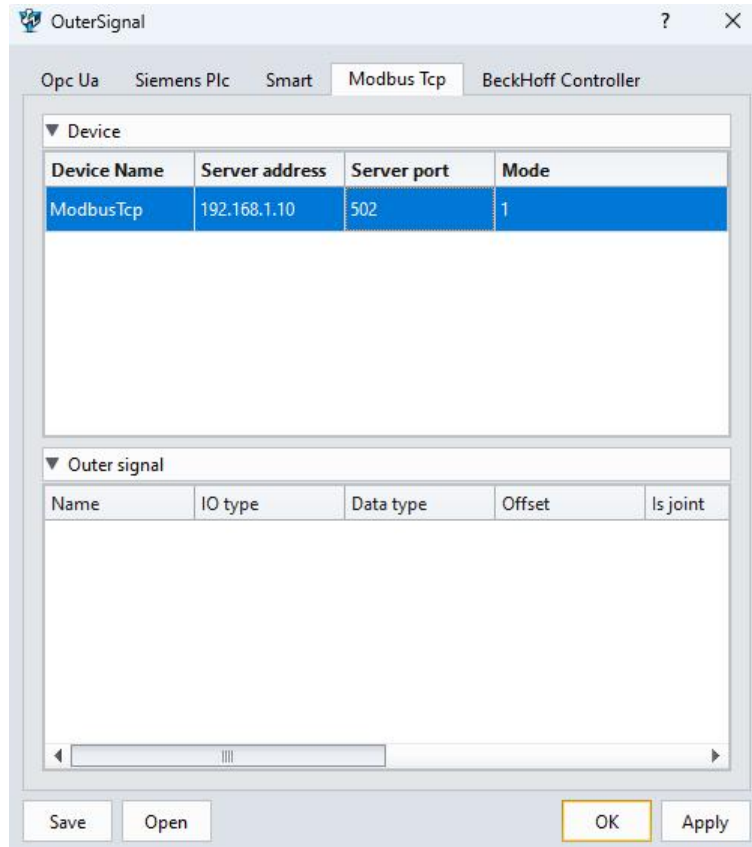

Figure 12-12: Outer signal device parameters
- In the pop-up window: (Figure 12-12) Here is an example setting.